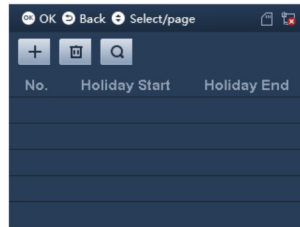

Figure 2-16
Select Shift>Shift Setup>Holiday, click ③. See Figure 2-16.